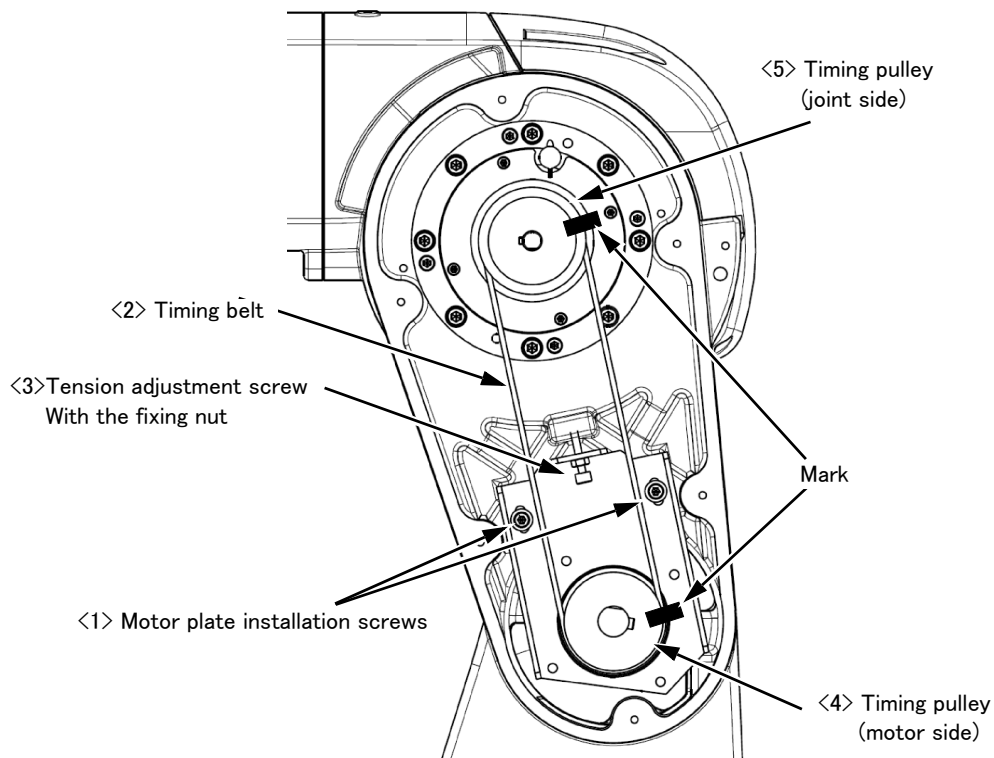

Fig.5-7 : Inspection, maintenance and replacement of J3 axis timing belt
The reference figure at inspection, adjustment, and replacement of the timing belt is shown in Fig. 5-7.
- 3) Make marks on the timing belt <2> and timing pulleys <4> and <5> with a felt-tip pen as shown in Fig. 5-7 so that the engagement of the timing belt <2> and timing pulleys <4> and <5> does not deviate.